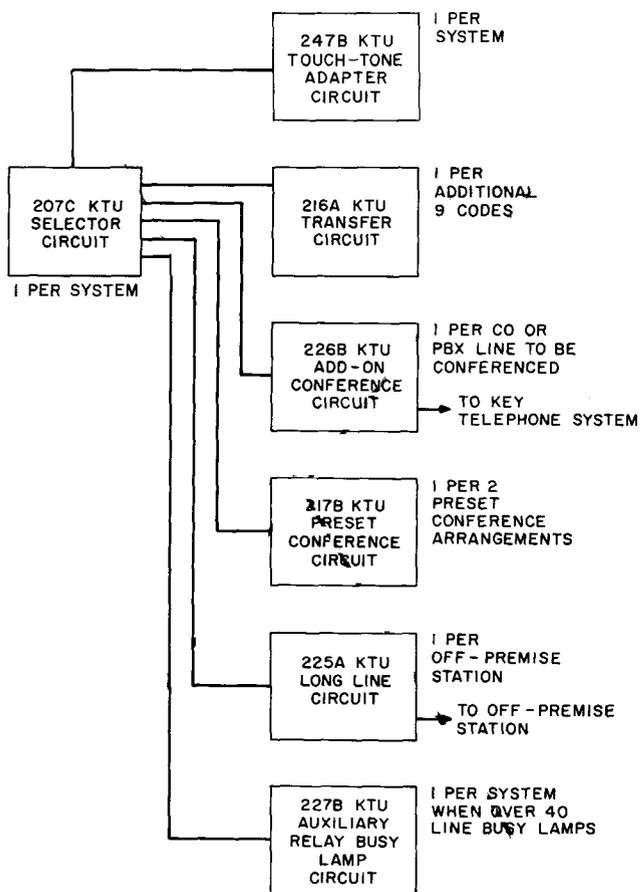

Fig. 1—Selector-Only Arrangement
2.03 The selector only arrangement (Fig. 1) provides for:
- (c) TOUCH-TONE® dial station selection utilizing the 247A (MD) or B key telephone unit.